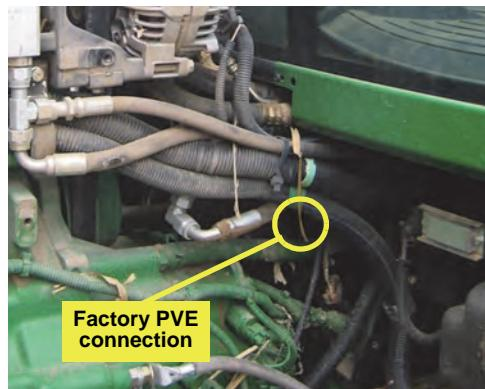

Figure 2e: 80 series - PVE connection location
- f. Locate the PVED valve in front of the cab (Figure 2e). Remove the plastic shield to gain access.